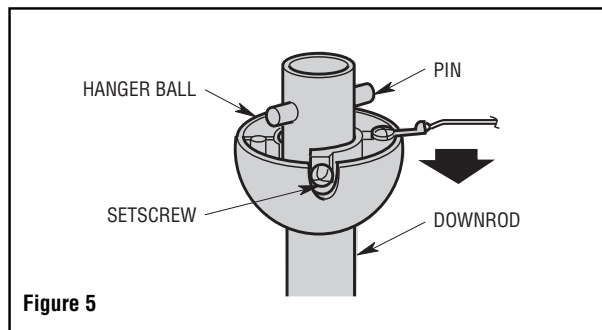

Figure 5
12. Remove the hanger ball by loosening the setscrew in the hanger ball until the ball falls freely down the downrod (Figure 5). Remove the pin from the downrod, then remove the hanger ball. Retain the pin and hanger ball for reinstallation in Step 16.